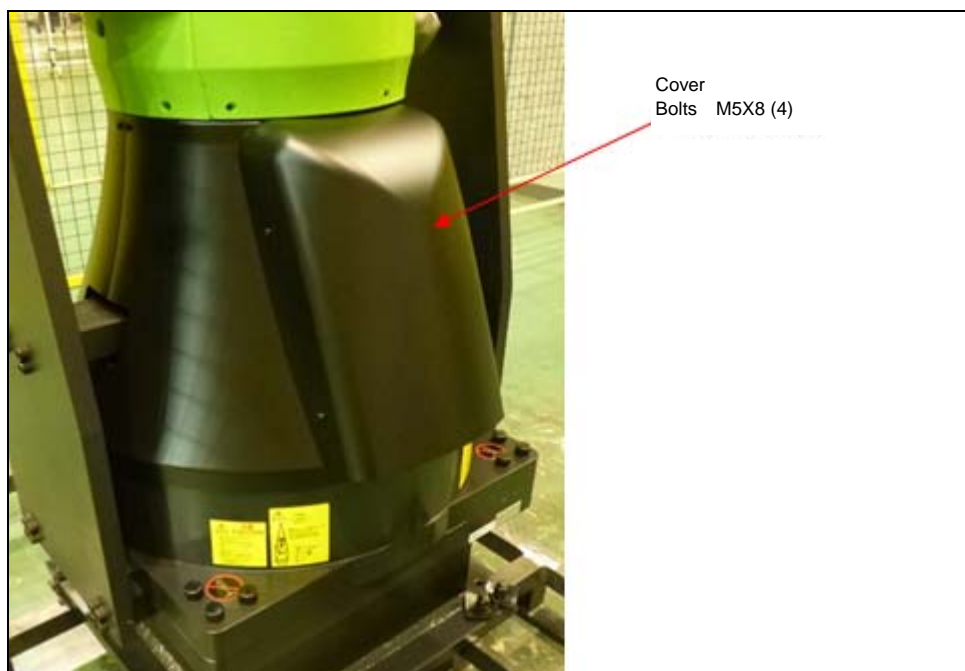

Fig. 2.1 (a) Cable connection (1/4)
- 2 Connect the Force sensor cable connector shown in Fig. 2.1 (b).